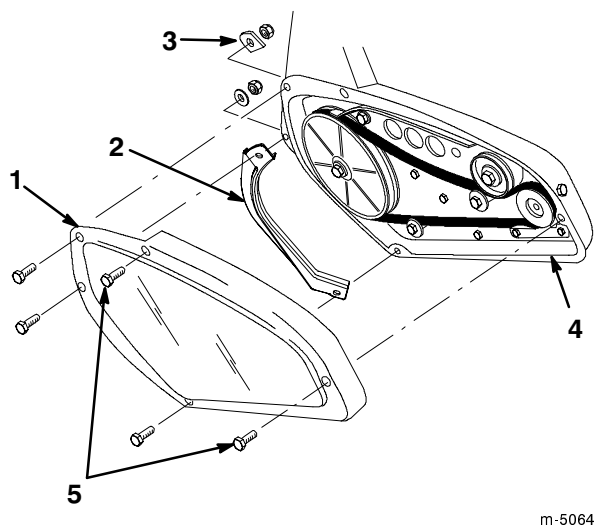

Figure 21
4. Remove the two self-tapping screws, three cap screws, one washer, and three locknuts that secure the drive belt cover to the snowthrower frame (Fig. 21). Set the drive belt cover aside.
5. Remove the left rotor guard (Fig. 21) and save it for installation in step 10.
Note: Install the diamond-shaped washer as shown in Figures 21 and 23.